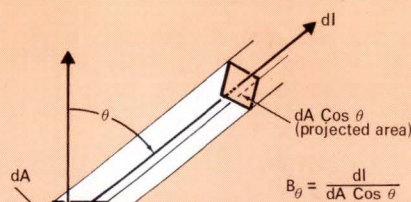

Fig. 5—Definition of luminance (B) of a light source must consider intensity, projected area and angle.
For an extended radiating surface, (such as a LED chip), each element of area contributes to the luminous intensity of the source, in any given direction. The luminous intensity contribution in the given direction, divided by the projected area of the surface element in that direction, is called the luminance (B) of the source (in that direction), (Fig. 5). This quantity is sometimes called photometric brightness, or simply brightness. Using the term brightness on its own should be discouraged, as brightness involves various subjective properties like texture, color, apparent size, etc. that have psychological implications. **The standard of luminance is the fundamental quantitative standard of the photometric system.**
The ability of an adjustable voltage standard to deliver current as well as voltage opens other avenues of precision test and measurement. **Fig. 5**, for example, shows a simple system for the generation of test currents of high accuracy, linearity, and resolution, using a high-gain operational amplifier.